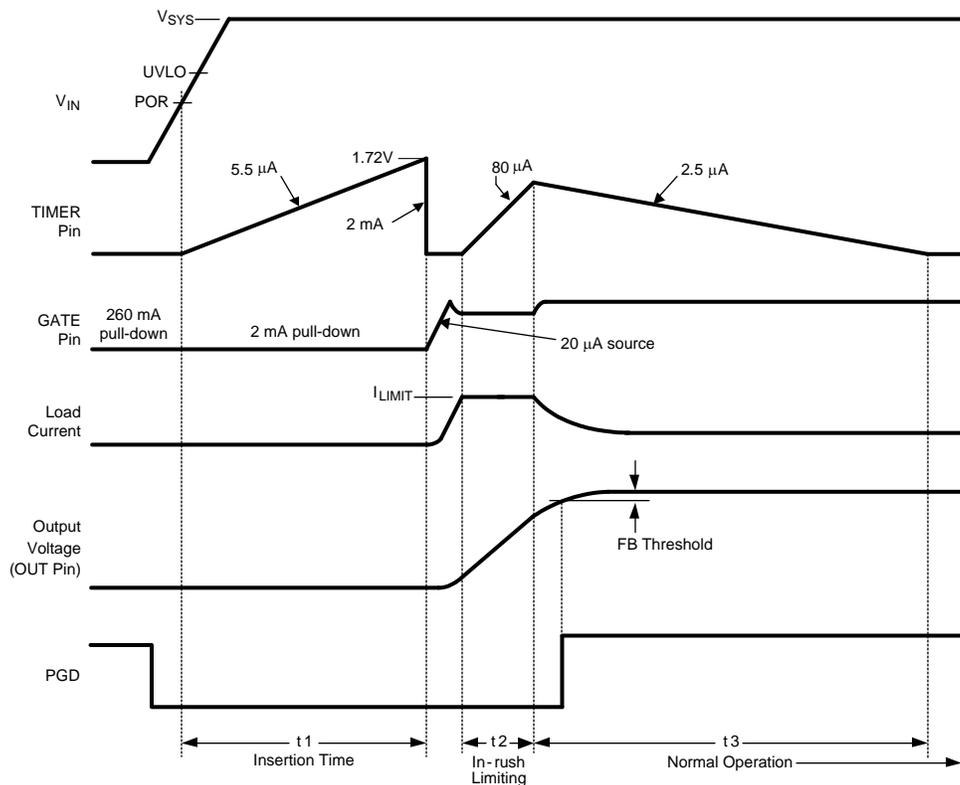

Figure 23. Power Up Sequence (Current Limit only)
The VIN operating range of the LM25061 is +2.9V to +17V, with a transient capability to 20V. Referring to the Block Diagram and Figure 21 and Figure 23, as the voltage at VIN initially increases, the external N-channel MOSFET (Q1) is held off by an internal 260 mA pull-down current at the GATE pin. The strong pull-down current at the GATE pin prevents an inadvertent turn-on as the MOSFET's gate-to-drain (Miller) capacitance is charged. Additionally, the TIMER pin is initially held at ground. When the VIN voltage reaches the POR threshold the insertion time begins. During the insertion time, the capacitor at the TIMER pin (C_T) is charged by a 5.5 μ A current source, and Q1 is held off by a 2 mA pull-down current at the GATE pin regardless of the VIN voltage. The insertion time delay allows ringing and transients at VIN to settle before Q1 is enabled. The insertion time ends when the TIMER pin voltage reaches 1.72V. C_T is then quickly discharged by an internal 2 mA pull-down current. The GATE pin then switches on Q1 when V_{SYS} exceeds the UVLO threshold. If V_{SYS} is above the UVLO threshold at the end of the insertion time, Q1 switches on at that time. The GATE pin charge pump sources 20 μ A to charge Q1's gate capacitance. The maximum voltage at the GATE pin is limited by an internal 19.5V zener diode.
As the voltage at the OUT pin increases, the LM25061 monitors the drain current and power dissipation of MOSFET Q1. In-rush current limiting and/or power limiting circuits actively control the current delivered to the load. During the in-rush limiting interval (t_2 in Figure 23) an internal 80 μ A fault timer current source charges C_T . If Q1's power dissipation and the input current reduce below their respective limiting thresholds before the TIMER pin reaches 1.72V the 80 μ A current source is switched off, and C_T is discharged by the internal 2.5 μ A current sink (t_3 in Figure 23). The in-rush limiting interval is complete when the load current reduces to the normal operating level. The PGD pin switches high when the output voltage exceeds the threshold programmed at the FB pin.
A charge pump provides the voltage at the GATE pin to enhance the N-Channel MOSFET's gate. During normal operating conditions (t_3 in Figure 23) the gate of Q1 is held charged by an internal $20\ \mu\text{A}$ current source. The voltage at the GATE pin (with respect to ground) is limited by an internal 19.5V zener diode. See the graph "GATE Pin Voltage". Since the gate-to-source voltage applied to Q1 could be as high as 19.5V during various conditions, a zener diode with the appropriate voltage rating must be added between the GATE and OUT pins if the maximum V_{GS} rating of the selected MOSFET is less than 19.5V . The external zener diode must have a forward current rating of at least $260\ \text{mA}$.
During the insertion time (t_1 in Figure 23) the GATE pin is held low by a $2\ \text{mA}$ pull-down current. This maintains Q1 in the off-state until the end of t_1 , regardless of the voltage at V_{IN} or UVLO.
Following the insertion time, during t_2 in Figure 23, the gate voltage of Q1 is modulated to keep the current or power dissipation level from exceeding the programmed levels. While in the current or power limiting mode the TIMER pin capacitor is charging. If the current and power limiting cease before the TIMER pin reaches 1.72V the TIMER pin capacitor then discharges, and the circuit enters normal operation.
A) Insertion Delay - Upon applying the system voltage (V_{SYS}) to the circuit, the external MOSFET (Q1) is held off during the insertion time (t_1 in Figure 23) to allow ringing and transients at V_{SYS} to settle. Since each backplane's response to a circuit card plug-in is unique, the worst case settling time must be determined for each application. The insertion time starts when V_{IN} reaches the POR threshold, at which time the internal 5.5 μA current source charges C_T from 0V to 1.72V. The required capacitor value is calculated from: